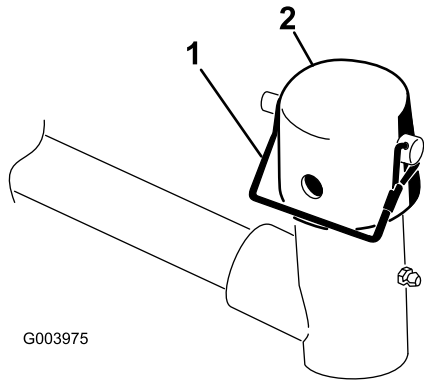

Figure 9
7. Remove the snapper pin and the cap from the lift-arm-pivot yoke (Figure 9).
Note: Use the slot if you desire a steering cutting unit or use the hole if you are locking the cutting unit in position (Figure 9).